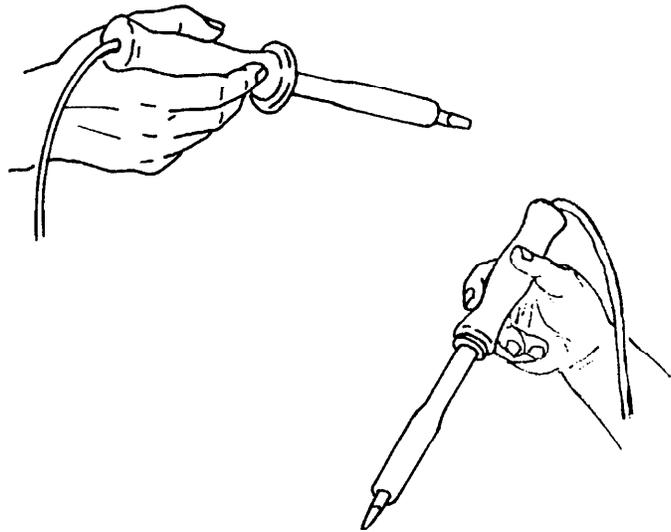

Figure 5. Pencil Grip Method of Holding Soldering Copper.
- (b) The pencil grip, shown in Figure 5, may generally be found applicable on vertical terminals such as those on the horizontal side of a distributing frame.